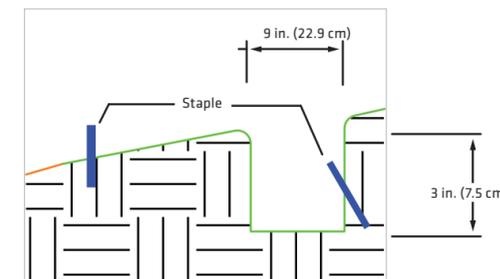

FIGURE 1
1. Begin at the location where the SediMax-FR is to be installed by excavating a 3 in. (7.5 cm) deep x 9 in. (22.9 cm) wide trench along the contour of the slope. Excavated soil should be placed upslope from the anchor trench (Figure 1).
3. Secure the SediMax-FR in the anchor trench by placing a row of staples/stakes on 12 in. (30 cm) centers across the entire length of the SediMax-FR. A second row of staples/stakes must be placed across the entire lower edge of the SediMax-FR splash apron on approximately 12 in. (30 cm) centers, staggered with the first row of staples/stakes (Figures 1 and 2).